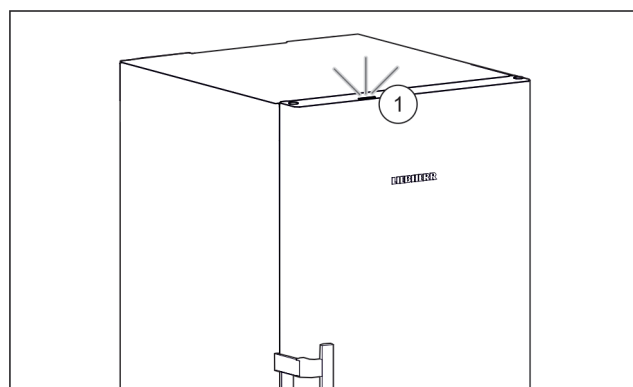

Fig. 4
When you start up the appliance, the status light Fig. 4 (1) is deactivated by default.\*